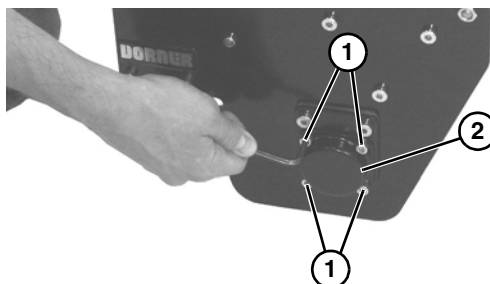

Figure 33
6. On right side, remove four socket head screws (**Figure 33, item 1**) and cover (**Figure 33, item 2**).